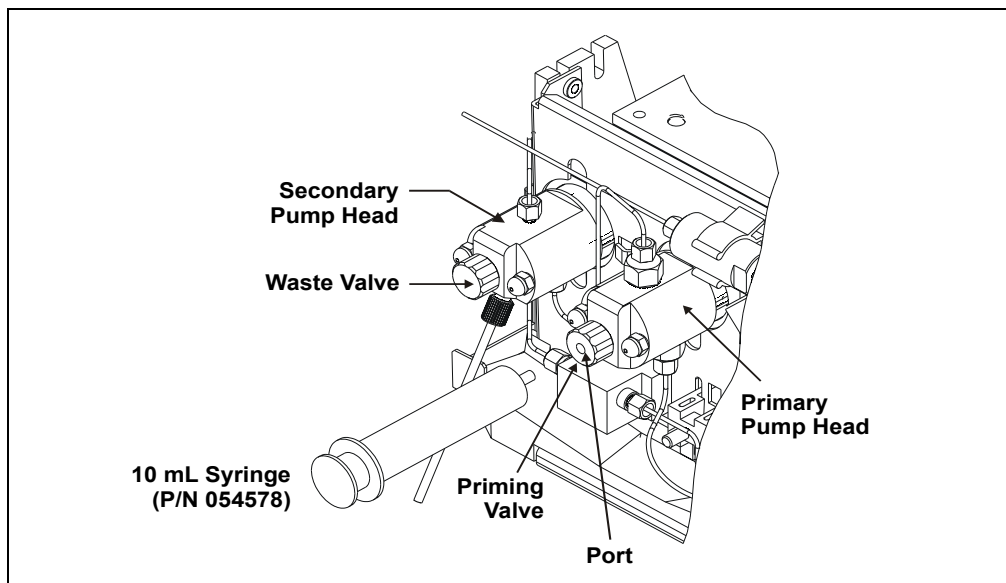

Figure B-4. Priming the Pump
2. Connect a 10 mL syringe (P/N 054578) to the port in the priming valve on the primary pump head (see Figure B-4).
3. Open the waste valve on the secondary pump head (see Figure B-4) by turning the knob one-quarter to one-half turn counterclockwise.
2. Check that the priming valve on the primary pump head is closed (see Figure B-4).
3. Open the waste valve on the secondary pump head (see Figure B-4) by turning the knob one-quarter to one-half turn counterclockwise. Opening the valve directs the eluent flow path to waste and eliminates backpressure.
1. Connect a 10 mL syringe (P/N 054578) filled with isopropyl alcohol (IPA) to the port in the primary pump head (see Figure B-4).
2. Open the waste valve on the secondary pump head (see Figure B-4) by turning the knob one-quarter to one-half turn counterclockwise.
4. Open the priming valve on the primary pump head (see Figure B-4) by turning it one-quarter to one-half turn counterclockwise.